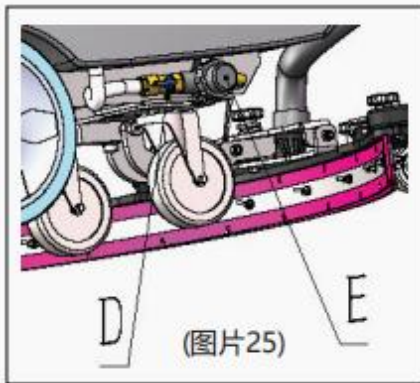

fig25
26. Brush with Insufficient Water Supply (Fig. 25)